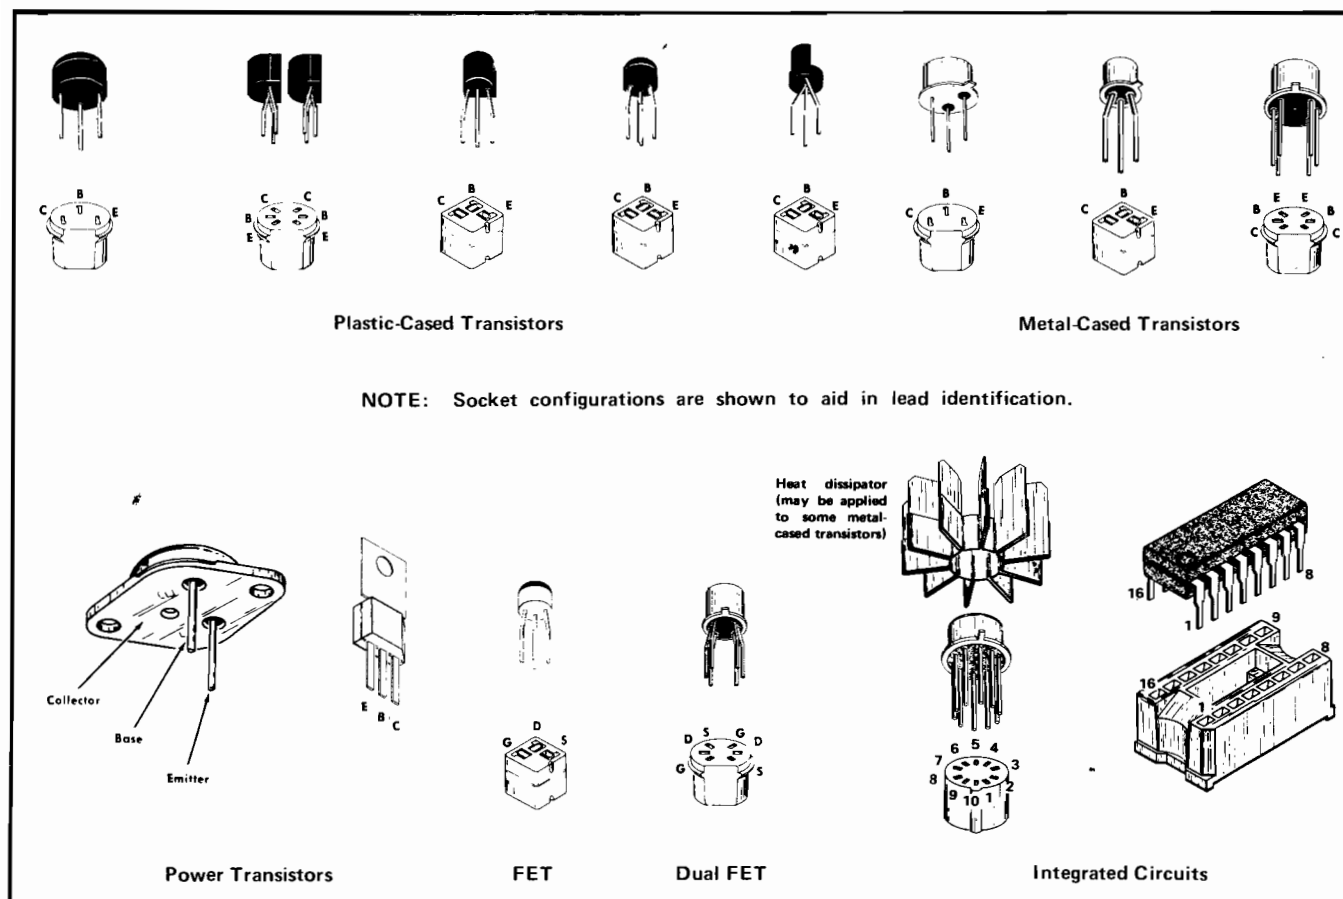

Fig. 4-1. Electrode configuration data for semiconductor devices.
**Semiconductor Lead Configuration.** Fig. 4-1 shows the lead configuration of the semiconductor devices used in this instrument.
Replacement semiconductors should be of the original type or a direct replacement. Fig. 4-1 shows the lead configuration of the semiconductors used in this instrument system. When removing soldered-in transistors, use a suction-type de-soldering tool to remove the solder from the holes in the circuit board.